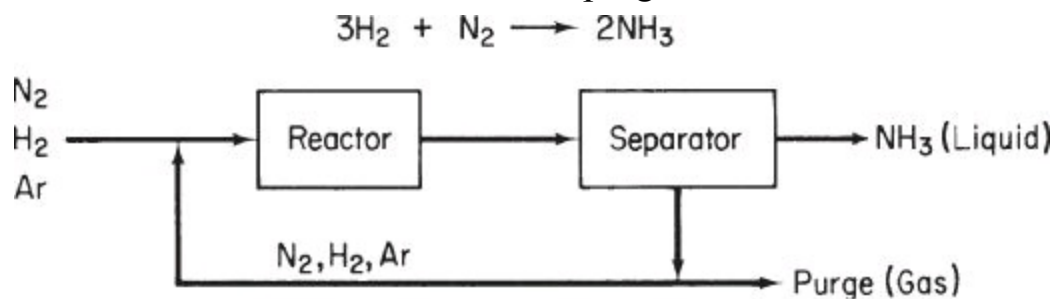

Figure SAT6.4P1
1. In the famous Haber process (Figure SAT6.4P1) to manufacture ammonia, the reaction is carried out at pressures of 800 to 1000 atm and at 500°C to 600°C using a suitable catalyst. Only a small fraction of the material entering the reactor reacts on one pass, so recycle is needed. Also, because the nitrogen is obtained from the air, it contains almost 1% rare gases (chiefly argon) that do not react. The rare gases would continue to build up in the recycle until their effect on the reaction equilibrium became adverse, so a small purge stream is used.